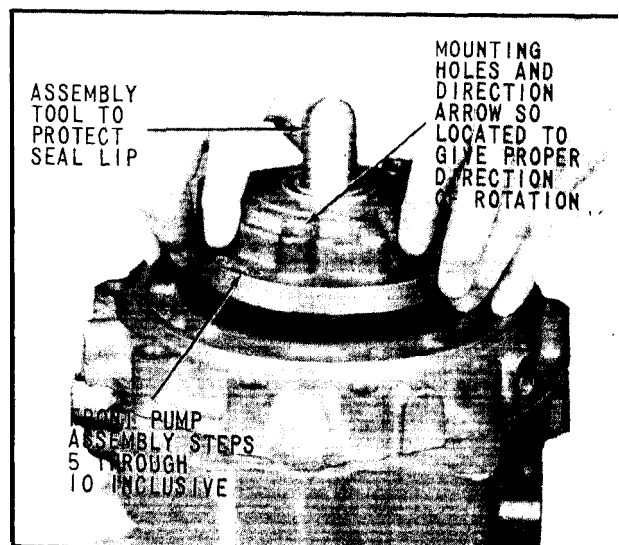

Fig. 97 Munting Front pump
11. Place assembled transmission on rear face of coupling in upright position, as shown in (Fig. 97). Inspect upper exposed adapter face for dirt and obstructions, then lubricate and install front pump gasket.
13. Use a suitable tool to cover the splined portion of the input shaft and thereby protect the rubber lip on the oil seal during assembly of front pump, (Fig. 97).
14. After checking the following items, place the front pump assembly, steps 5 through 10 inclusive, squarely down over the protruding input shaft and assembly tool, (Fig. 97).